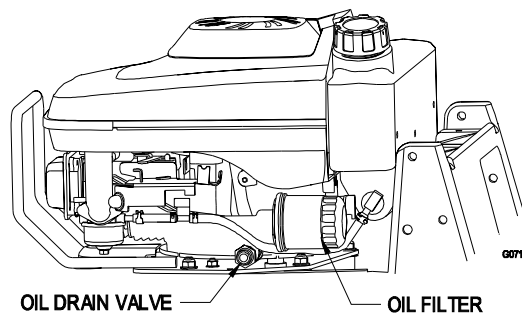

FIGURE 4
- b) Open the fuel valve. The fuel valve is located at the lower left edge of the fuel tank. Rotate the valve counter-clockwise to turn on fuel. (Figure 4)